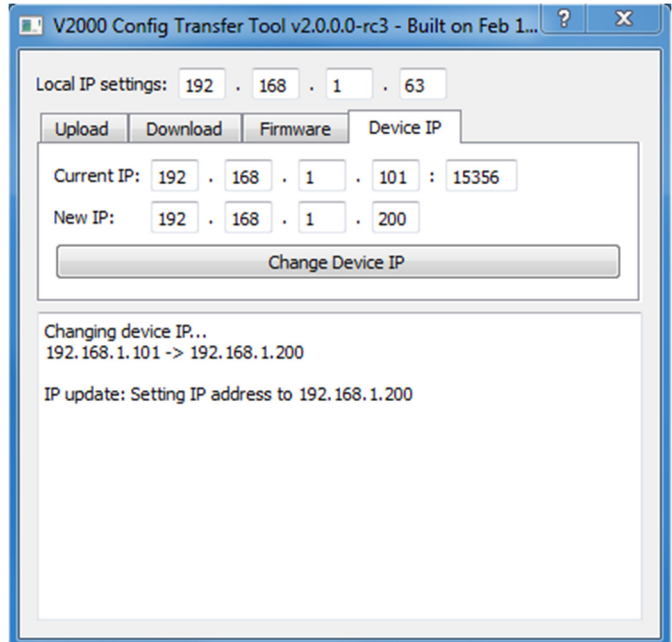

Figure 2 ASL Transfer tool – Device IP Complete
- e) The operation is successful when "*IP update: Setting IP address to ###*" is displayed - see **Figure 2**.